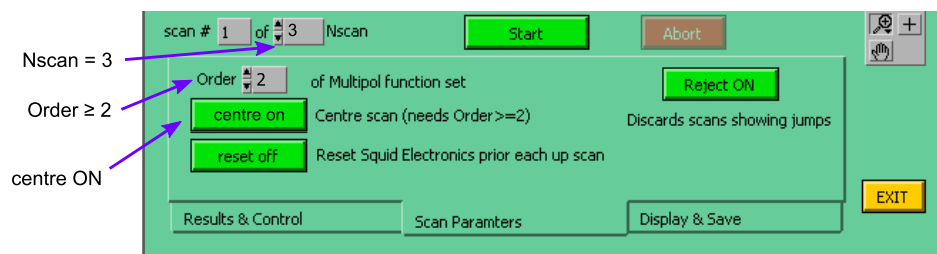

Figure 4.18: Settings for auto-centering.
**Automatic Sample centering** Once the sample is centered to within a few millimeters the automatic centering process can do the rest. Adjust the scan settings as shown in figure 4.18. Auto-centering determines the sample position from the centre of the peak in the signal and offsets the centre position accordingly. It is a good idea to perform several scans so that you can see how reliable the calculated offset is.